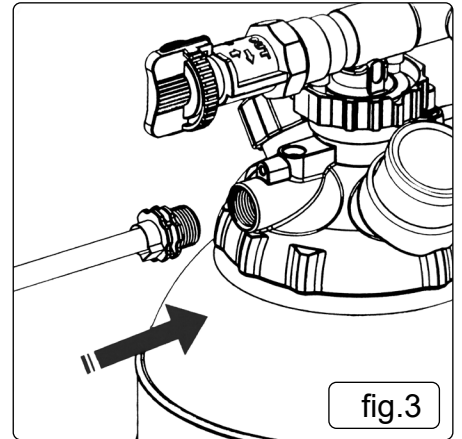

fig.3
4.1.3. Connect the main tube. (fig.3)